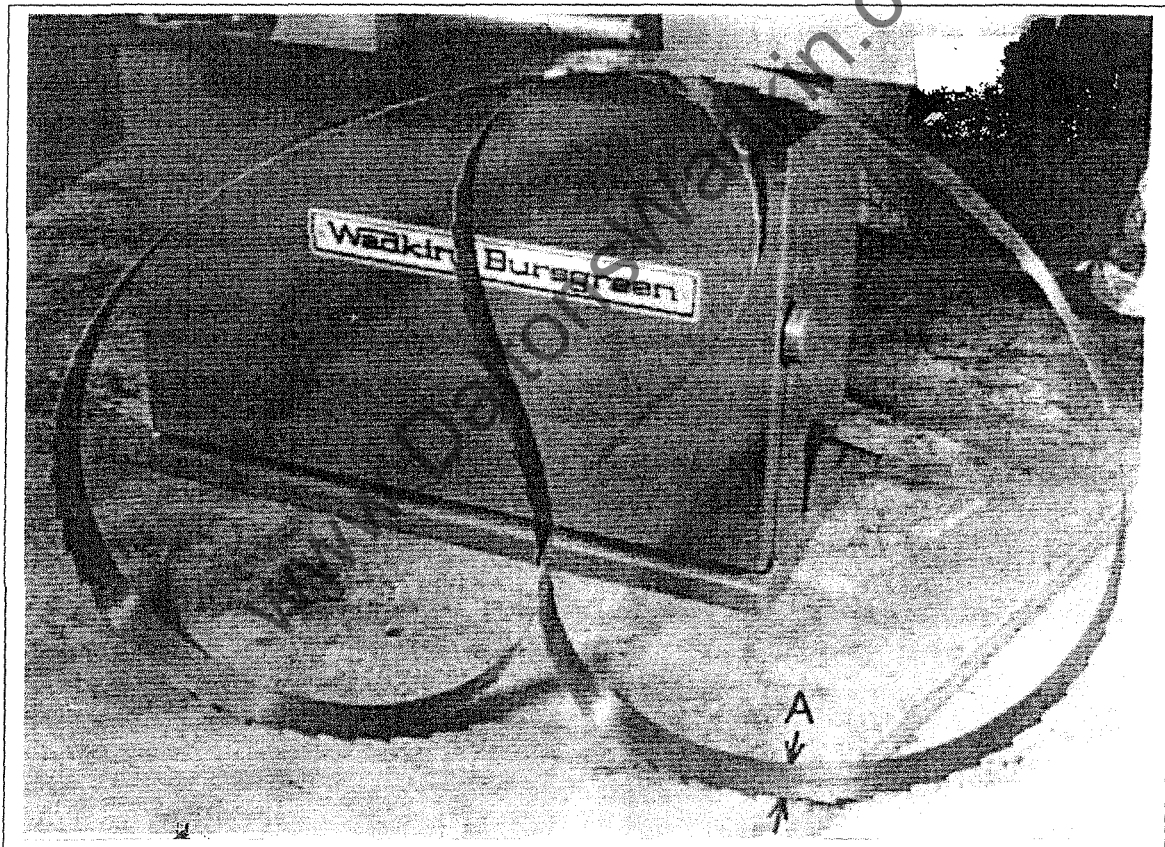

Fig 29
3. Blade should be pretensioned across width - see 'A' (FIG. 29).